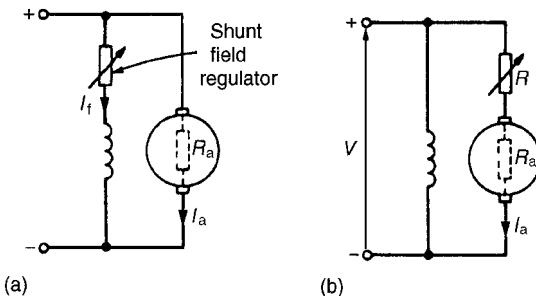

Figure 22.29
(see equation (9)). The speed is varied either by varying the value of flux, Φ , or by varying the value of R_a . The former is achieved by using a variable resistor in series with the field winding, as shown in Fig. 22.29(a) and such a resistor is called the **shunt field regulator**.
are obtained by increasing the resistance in the armature circuit, as shown in Fig. 22.29(b), where
- (a) With reference to Fig. 22.29(b), back e.m.f. at 120 A, \$E_1 = V - I_a R_a = 500 - (120)(0.2) = 500 - 24 = 476\$ volts. When \$I_a = 60\$ A,